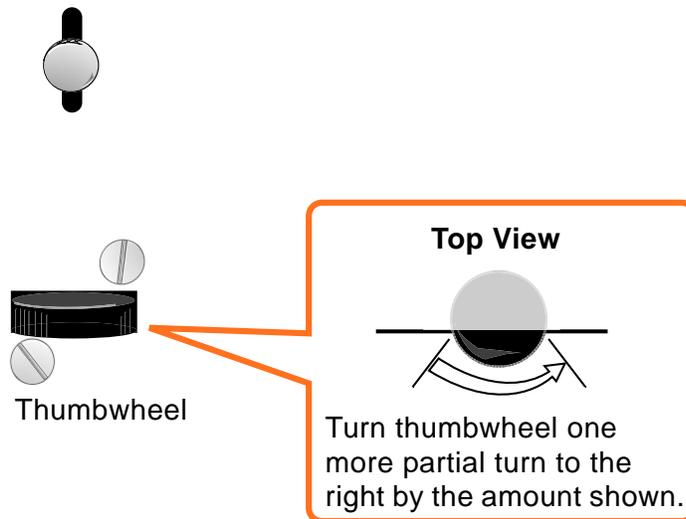

Figure 71. Thumbwheel Rotation
- 5 Turn the thumbwheel to the right until the “clicking” just stops. Then turn it one more partial turn, as shown in Figure 71.